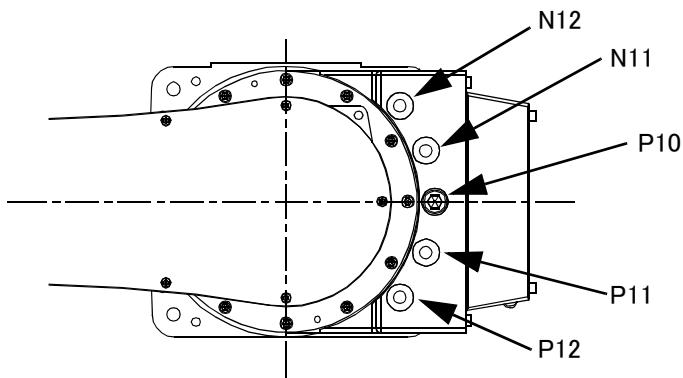

Fig.3-16 : Mechanical stopper position
Note2)Refer to Fig. 3-16 for mechanical stopper position.
2) Install the hexagon socket bolt in the screw hole to the angle to set up referring to Table 3-3 and Fig. 3-16.
About the mechanical stopper position and the relation of bolt size is shown in Fig. 3-16. When the screw hole is covered by the arm, move the No.1 arm slowly by hand.